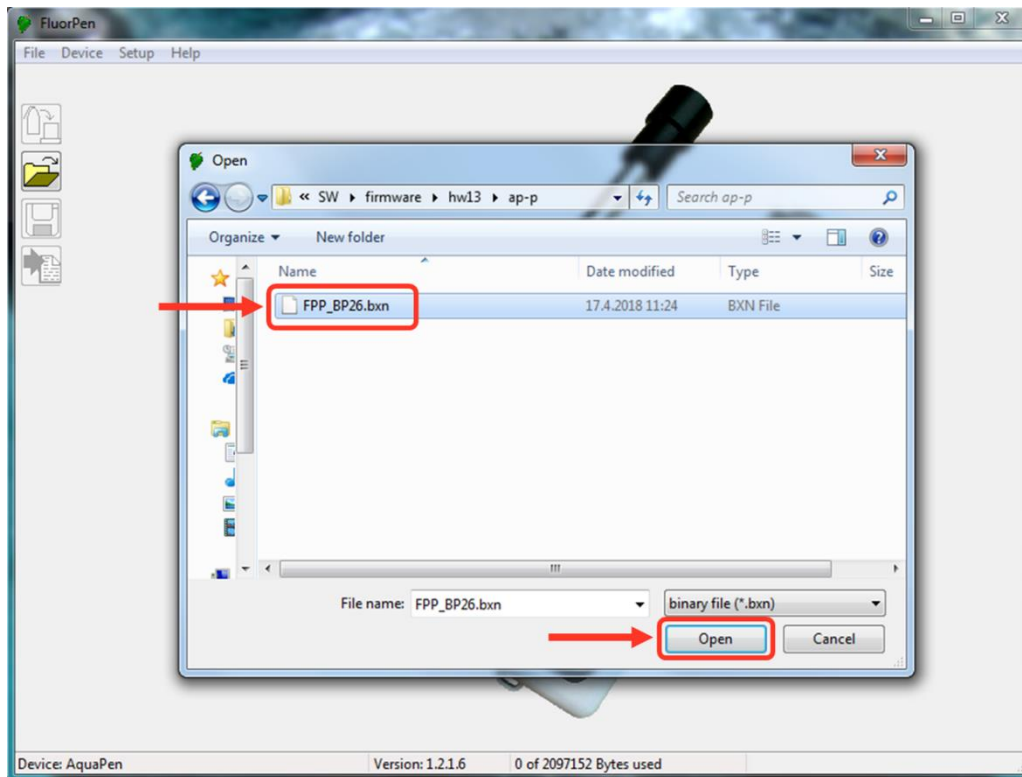

Fig. 20 Select .bxn file.
- Find: firmware update file: Binary file (with the extension .bxn) (Fig. 20).